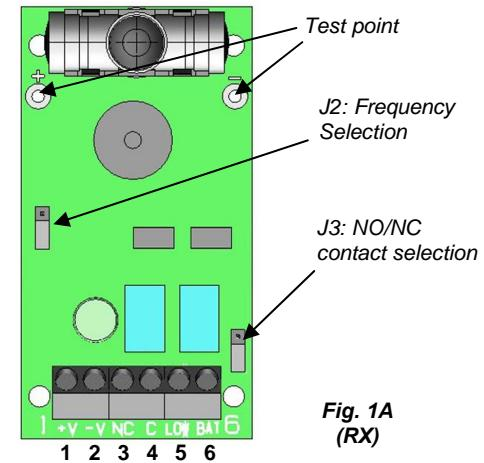

Fig. 1A
- Select the same operating frequency on the receiver and on the transmitter with the specific jumpers (J2, fig. 1A & 1B):
- With a voltmeter, set for measurement of alternating voltage, measure the value on the receiver test-point. (Fig. 1A). This value varies according to various parameters, among which the distance between the photocells. The higher the voltage value on the test-point the better is the alignment. The ideal measure should be between 0.5 and 0.6 VAC.